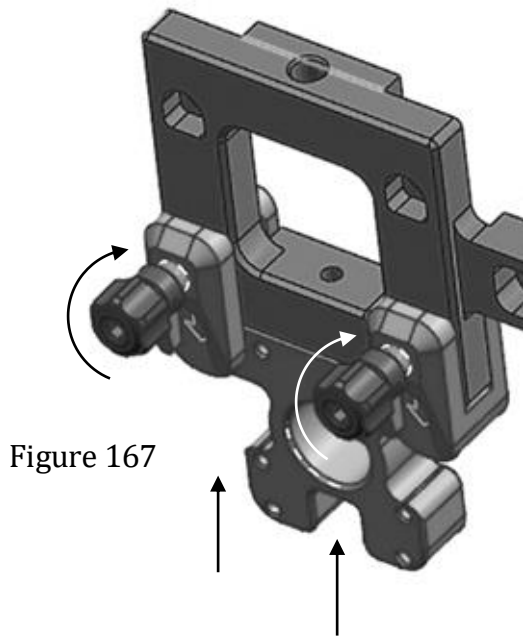

Figure 167
3. Slide the Attachment Plate onto the Drill Guide L-Bracket (33829032) and secure with the two captured knobs. (Figure 167)